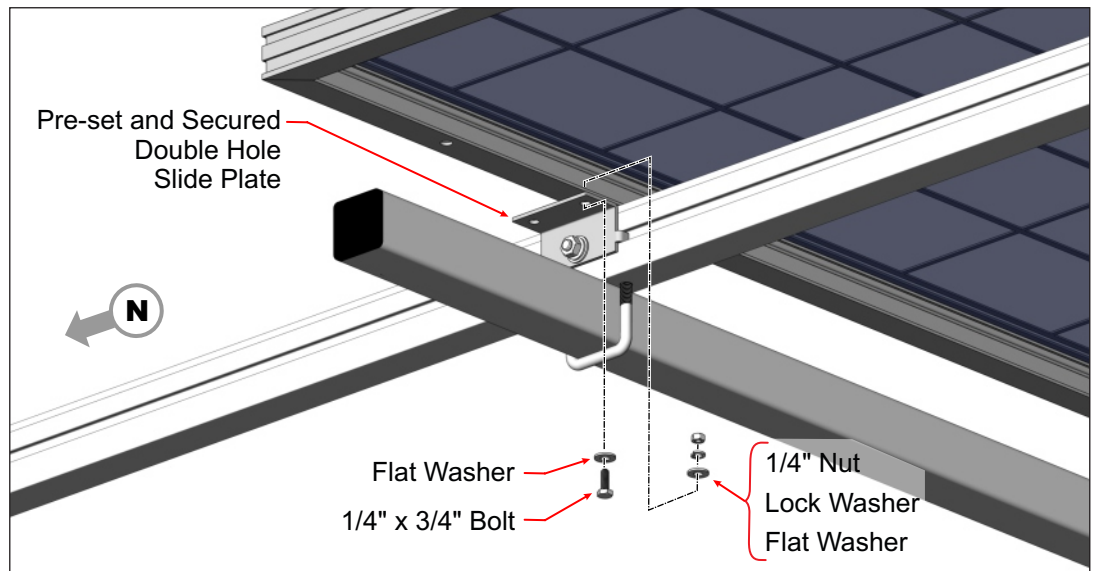

Figure 9-1: Installing first row of PV Modules to the Double Hole Slide Plates
- A. Align one of the PV Modules to a set of the secured Double Hole Slide Plates mounting holes. Secure with 1/4" x 3/4" bolts and hardware. Finger-tighten for now. (See Figures 9-1 and 9-2)